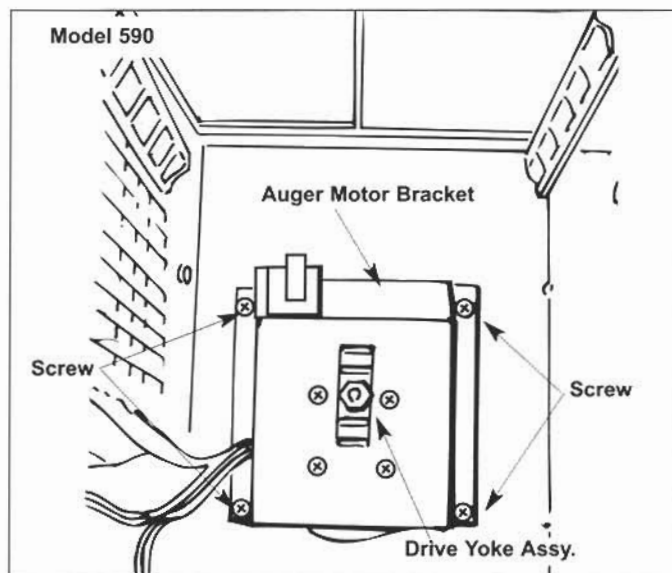

Figure 2-48. Auger Bracket
3. Remove the four screws and motor bracket (Figure 2-48).